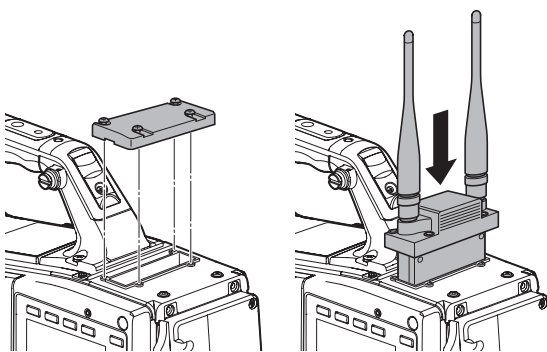

Fig. 1
- 1 Remove the cover to insert the wireless microphone receiver and secure it with the screws. (Fig. 1)